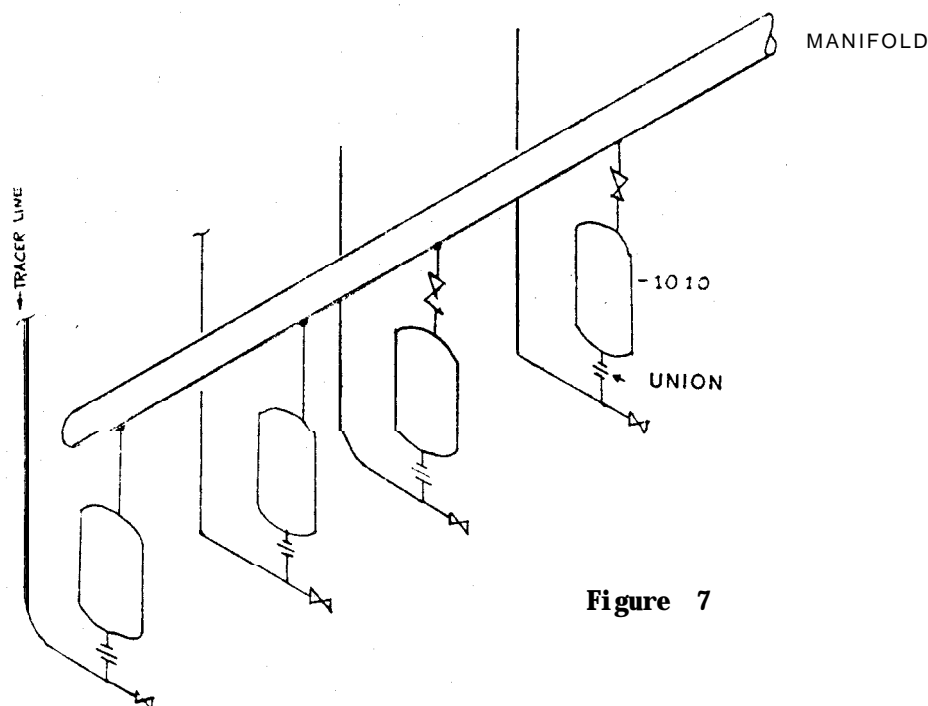

Figure 7
F. 1010 Series with Union on Inlet (Figure 7)